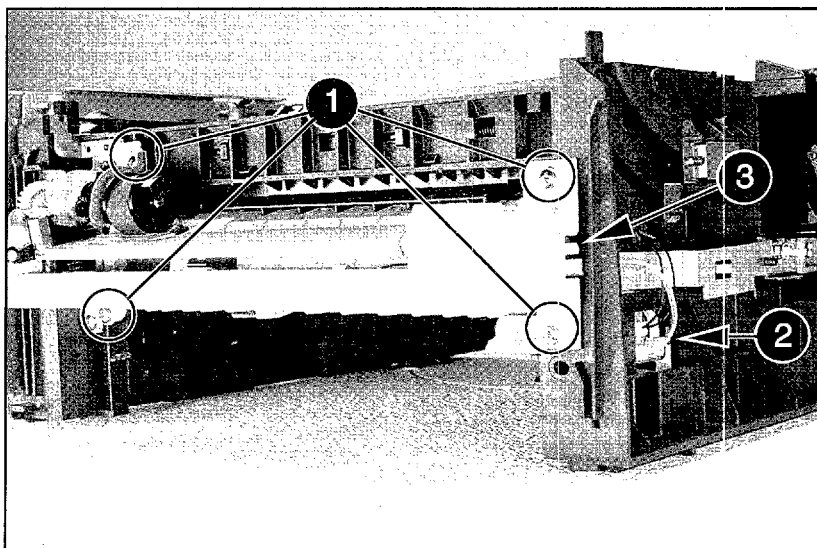

Figure 19 Tray 1 Pickup Assembly Locations.
2. Unplug the two cables (Callout 2 in Figure 19) by grasping the cables where they attach to the plug and pulling straight back.
4. Remove the 5 screws (callout 1 in Figure 19) from the front of the pickup assembly. (Two screws are adjacent in the lower left corner.)
5. Press the two release tabs on either side of the pickup assembly (callout 3 in Figure 19) and pull the assembly away from the printer. (The left side release tab is partially hidden from view. Pressing in on both sides will release the tabs.)